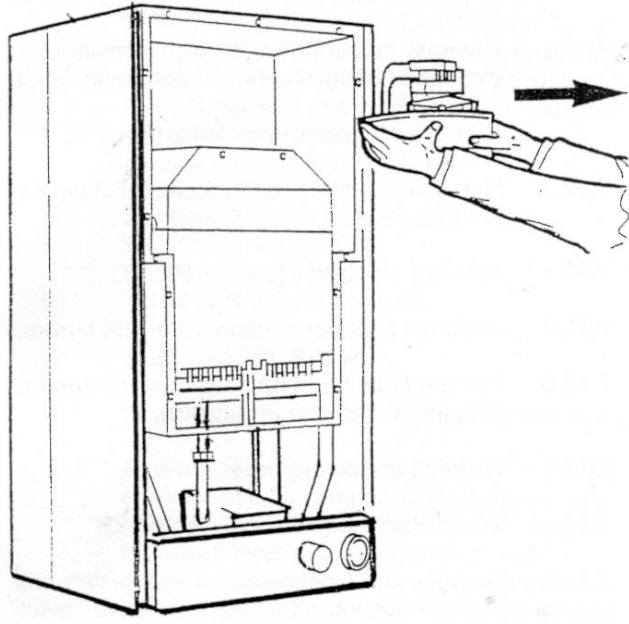

Fig. 62
- 7.8.9 Disconnect unions for two heating (right side of boiler) water pipelines (Fig. 62).